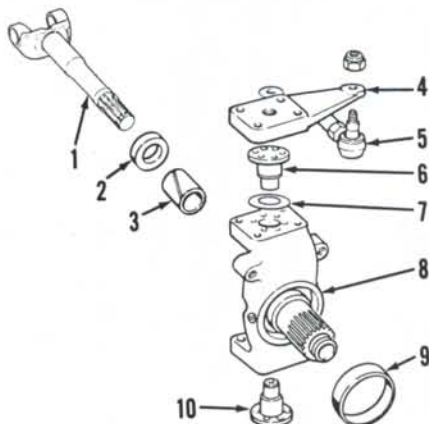
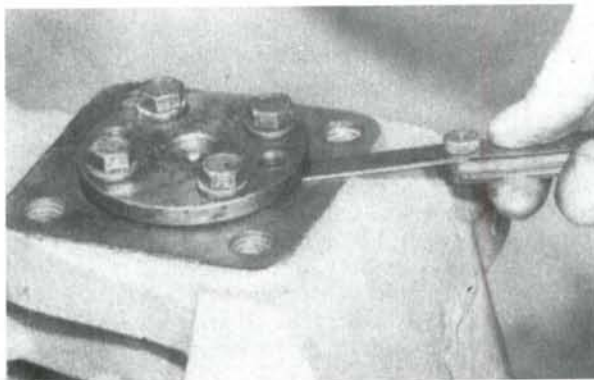

Fig. 8—Exploded view of David Brown front drive stub axle showing component parts and their relative positions.
Fig. 9—To set bearing pin preload, use a feeler gage to measure gap between bearing pin flange and stub axle housing. Refer to text.
**10. FINAL DRIVE AND STUB AXLE.** Left and right final drive removal procedure is similar. To remove, raise and support side to be serviced and remove tire and wheel. Rotate hub so drain plug is at bottom and drain fluid. Remove end plate (12—Fig. 7) and use pry bars to pull sun gear (15) and shaft (1—Fig. 8) out approximately 5 mm ( $\frac{3}{16}$  inch).
Remove steering lever (4—Fig. 8) and bolts retaining upper and lower bearing pins (6 and 10). Remove bearing pins
Remove seal (2—Fig. 8) from inside stub axle (8). Using a suitable bushing driver, drive bushing (3) out oil seal end of stub axle. Install new bushing from seal end until it seats in stub axle. Install new oil seal with lip of seal entering bore first.
To set bearing pin preload, reassemble unit minus shims (7—Fig. 8). Tighten lower bearing pin mounting bolts to 68 N·m (50 ft.-lbs.) torque and upper bearing pin mounting bolts to 20 N·m (15 ft.-lbs.) torque. Push stub axle up tight against bottom of axle housing and use a feeler gage to measure gap between upper bearing pin flange and stub axle. See Fig. 9. Remove upper bearing pin, then assemble shims so total thickness is 0.381 mm (0.015 inch) less than feeler gage measurement. This will correctly preload bearings to 0.10-0.15 mm (0.004-0.006 inch) when full load is on axle. Tighten upper bearing pin bolts to 68 N·m (50 ft.-lbs.) torque. Refer to paragraph 11 to set stub axle bearing preload.